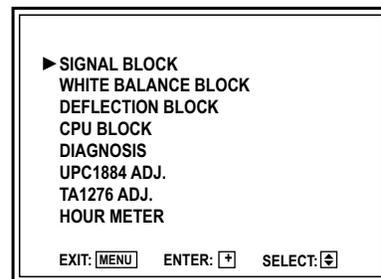

Fig. 3
7. Check that the initial values of the items in the SERVICE MENU (Fig. 3). If any item is set differently, set it as required. For the setting method and the initial values, see the corresponding pages for “**SERVICE ADJUSTMENTS**” in this manual.